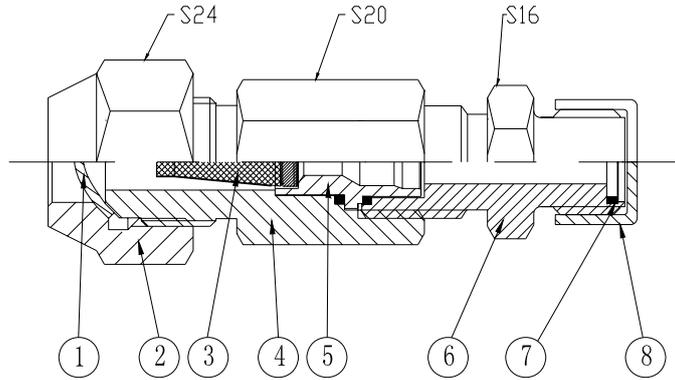

Fig 10
(2) During connection, remove the plastic seal cap at one end of the throttle valve (Part 8 in the above fig 10)
(3) Remove the end cap of liquid pipe joint (Note: Flange is equipped with the liquid pipe joint of ducted type unit)